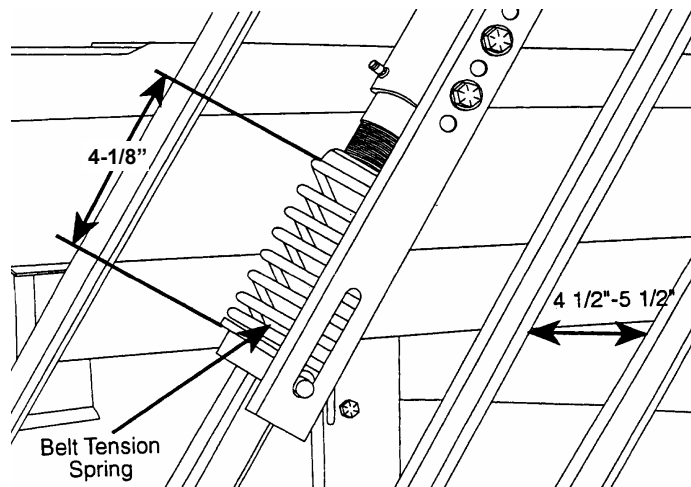

Figure 2-10
2. The Positive Ball Lift belt tension spring should be compressed to $4\text{-}1/8 \pm 1/8$ " for proper tension on the lift belt (see Figure 2-10). Take this measurement between the top edge of the spring and the upper edge of the lower spring retainer. Adjust by tightening or loosening the upper retaining ring using a spanner wrench.